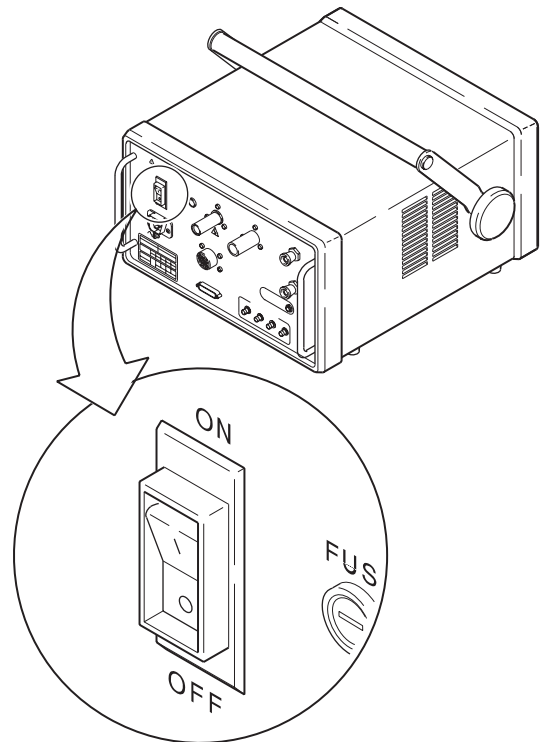

Figure 108 Power Supply Circuit Breaker in the OFF Position
1. Turn off the power supply. See Figure 108.